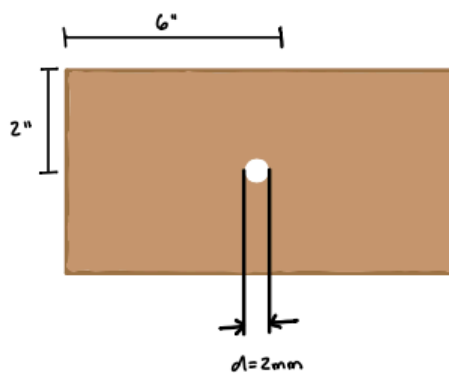

Figure 6
1. Attach ultrasonic distance sensor to the wall behind the front door using tape (*Appendix C, Fig. 6*).